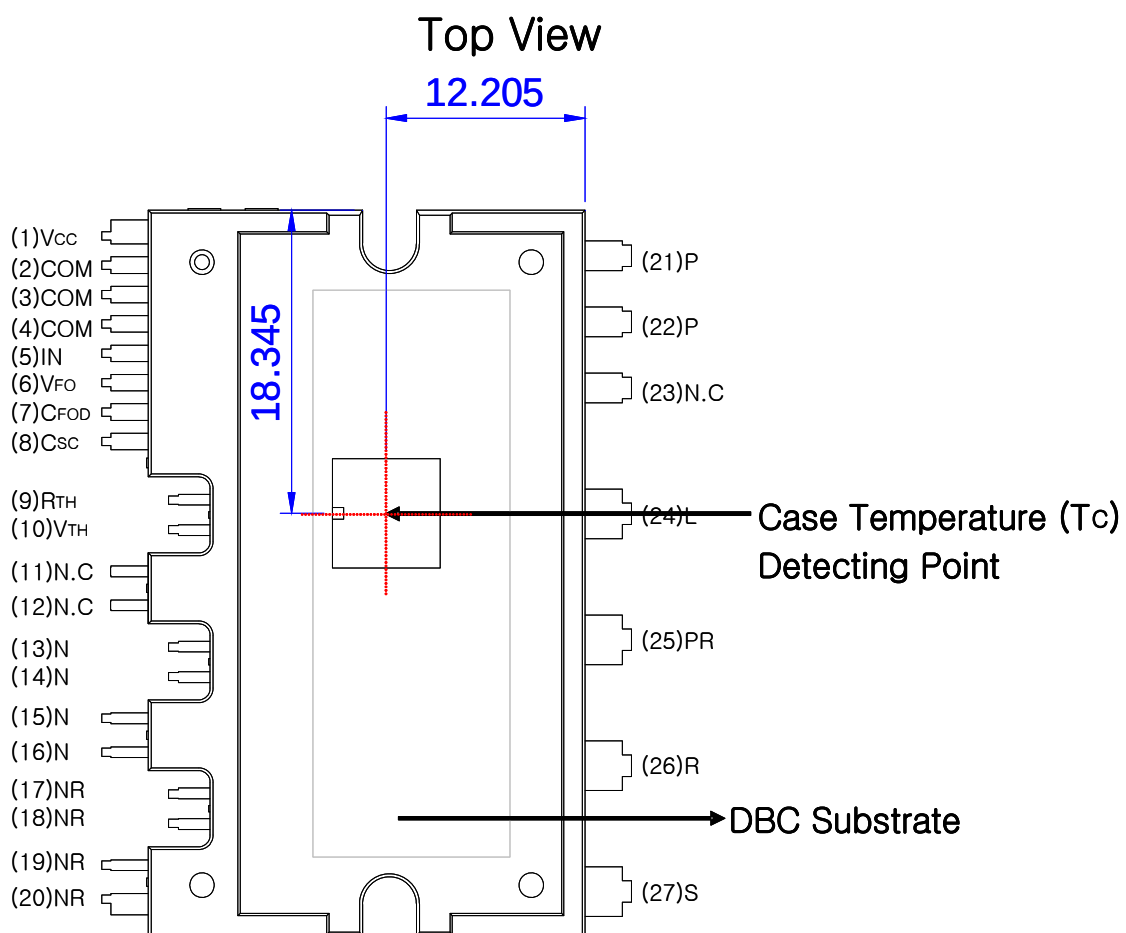

Figure 2. Top View
1. For the measurement point of case temperature(T_C), please refer to Figure 2.
2. For the measurement point of case temperature(T_C), please refer to Figure 2.